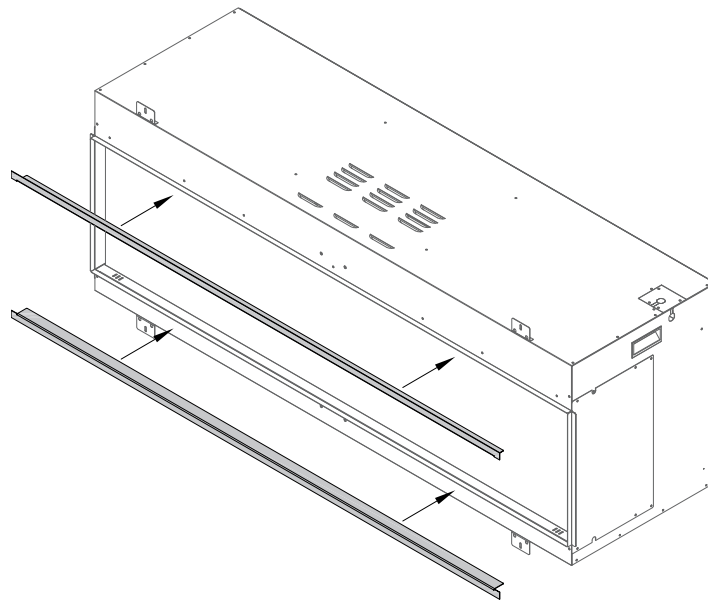

Figure 2.15 - Top and Bottom Trim
1. Install the top and bottom trim pieces as shown in Figure 2.15.